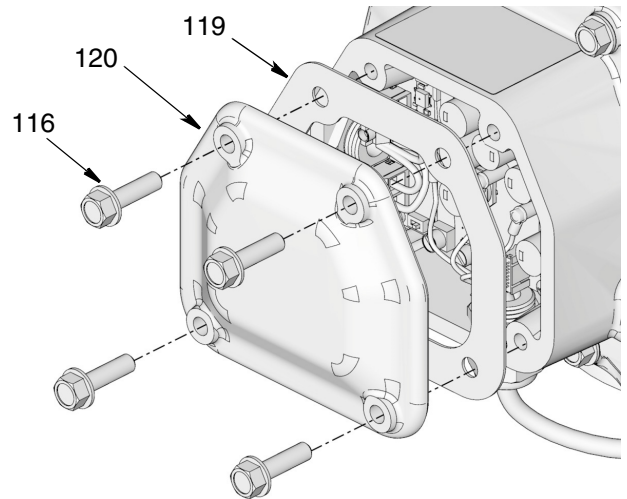

FIG. 63
5. Remove screws (116) from control box cover (120) and remove cover and gasket (119) (FIG. 63).